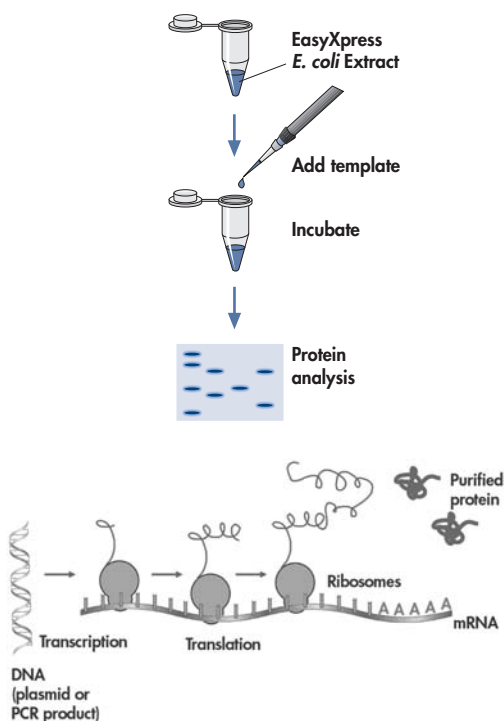

Figure 4. Schematic showing cell-free expression of proteins.
The lysates contain all translational machinery components (ribosomes, ribosomal factors, tRNAs, aminoacyl-tRNA synthetases, etc.) as well as T7 and *E. coli* RNA polymerases. They use a coupled transcription–translation system enabling the expression of full-length proteins from T7 or *E. coli* promoters in a single-step reaction using plasmid or linear DNA templates, such as PCR products (Figure 4). Using EasyXpress Protein Synthesis Kits, up to 1 mg/ml biologically active protein can be synthesized within 1 hour (2). The synthesis reaction can be easily scaled up (to produce milligram amounts of protein) or down (for high-throughput screening in 96-well plate format). Large- and small-scale protocols are available in this handbook. The amount of protein synthesized increases linearly with reaction volume.